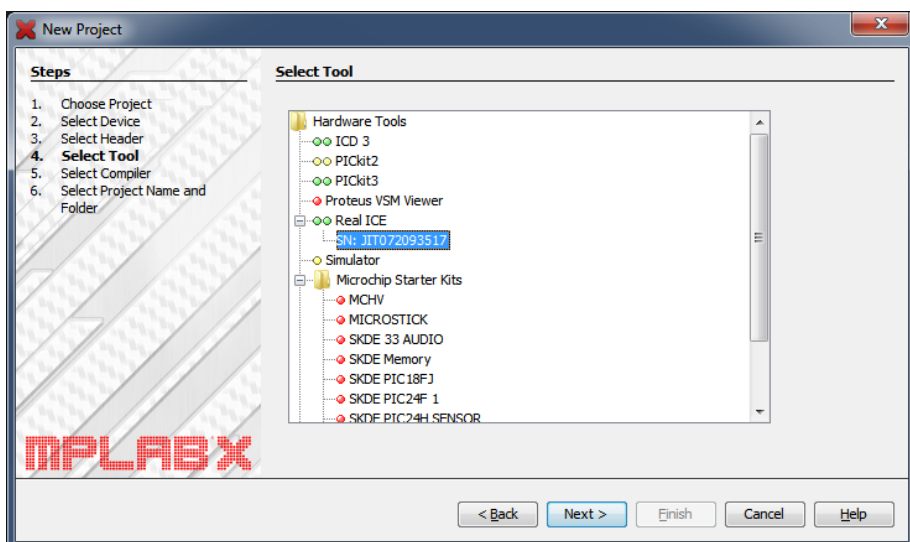

Figure 1.6
- If attending the class in-person, you may be using either a **Real ICE** or **ICD 3**. **Choose the serial number** immediately below the tool you are using (see figure 1.6 for an example with a Real ICE).